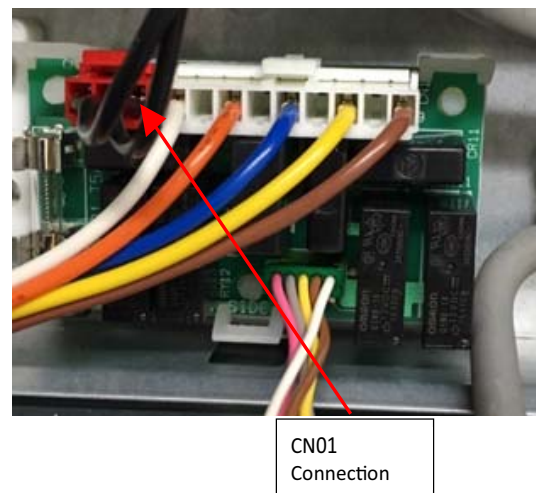

Fig. 62 - CN01 Connection
9. Connect the red connector on the power wire to CN01 on the FS box control board and use the Romex connector as strain relief as shown in Fig. 62.